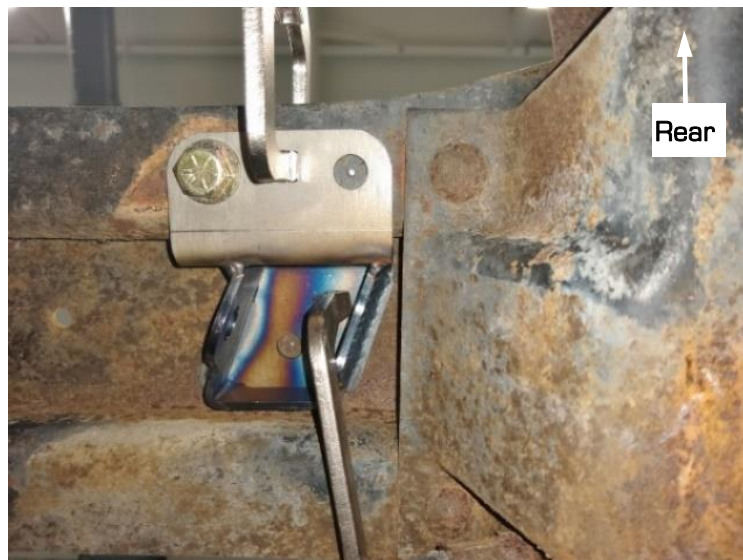

Figure 5 - Transfer Punch Mounting Holes
7. Clamp the right hand upper shock mount in place and transfer punch the two remaining holes in the mount to the underside of the crossmember (Figure 5).